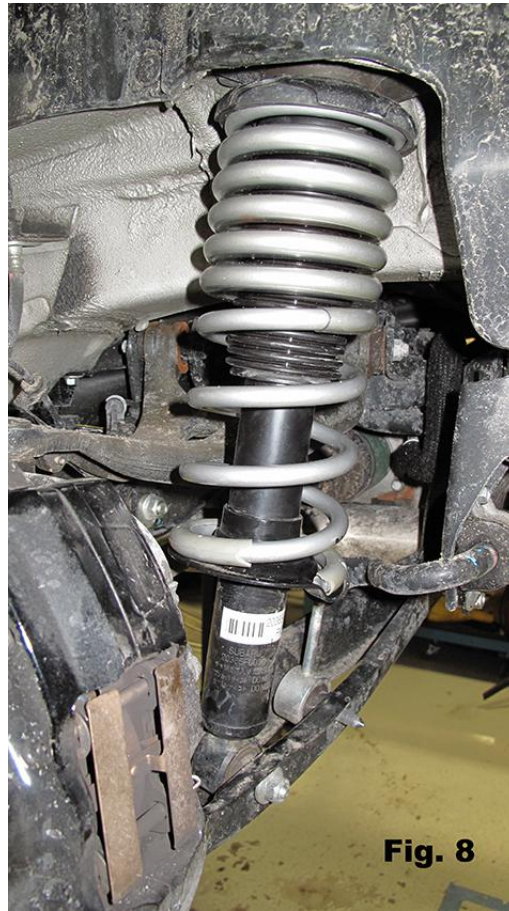

Fig. 8
- 11) Install completed shock/spring assembly onto vehicle (Fig. 8) and torque all bolts: